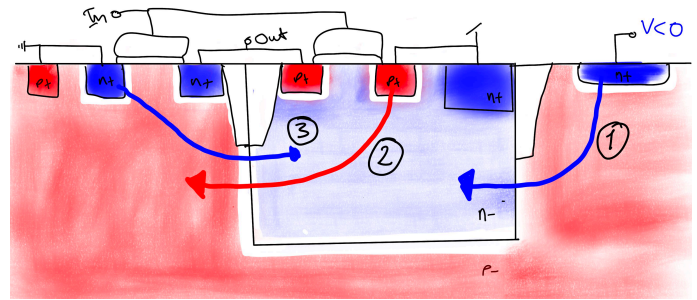

Figure 15: Cross section of an inverter
Consider the cross section of the inverter in Figure 15. The latch-up process starts with electron injection (1), then forward bias of PMOS source/drain junction (2), forward bias of NMOS source/drain junction (3) , and finally positive feedback .